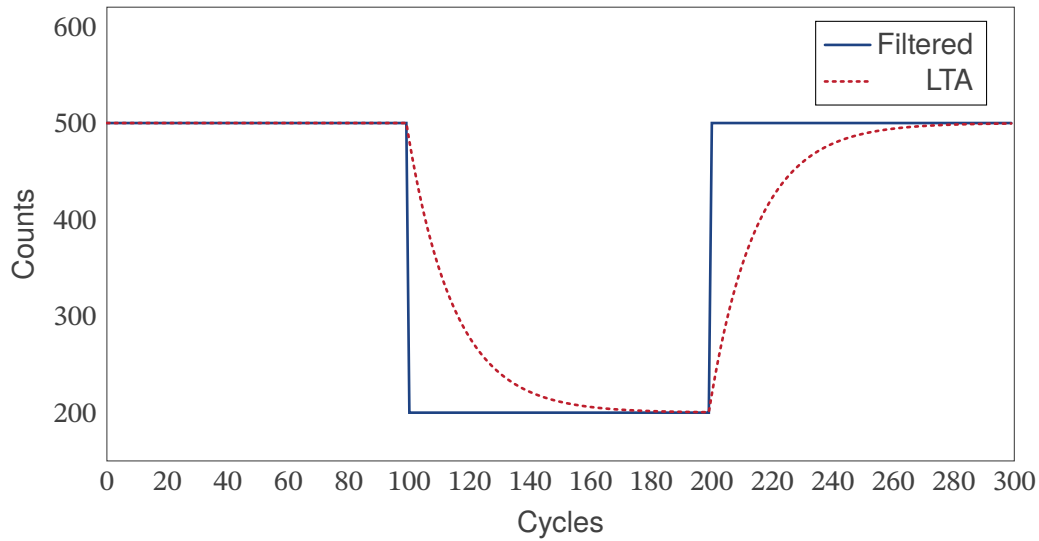
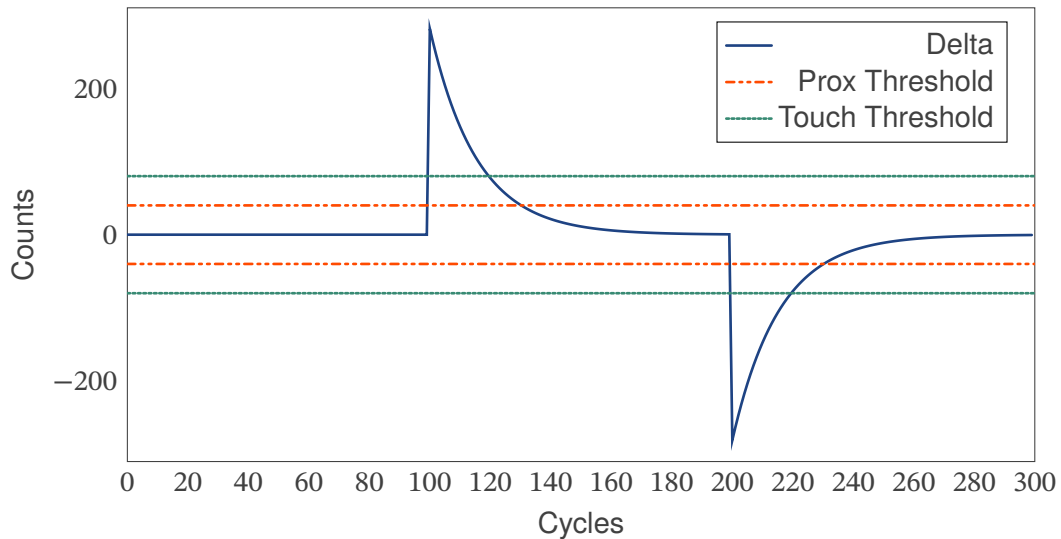

Figure 6.1: Channel Filtered Counts and LTA Response during a Touch Event, with the Release UI Enabled
Figure 6.2: Channel Delta Response during a Touch Event
Touch and proximity events are triggered when the channel *delta* exceeds the thresholds configured in the *proximity* and *touch* threshold parameters. The sign of the delta will determine the value of the direction flag under *touch event states*. An example of the touch channel's filtered, LTA, and delta response for an LTA beta of 4, and with the release UI enabled, is displayed in Figure 6.1 and Figure 6.2.
**Note:** Figure 6.1 and Figure 6.2 only displays the behaviour of the device with the release UI enabled.
The button UI of the device can sense both touch and release user interactions. The *release UI* bit will determine the behaviour of the reference channel during touch. If the bit is set the device will continue to update the reference channel of the device during a touch event. This will result in a positive touch delta when a touch event occurs and will result in a negative touch delta if a release event occurs. This can be viewed in Figure 6.2.